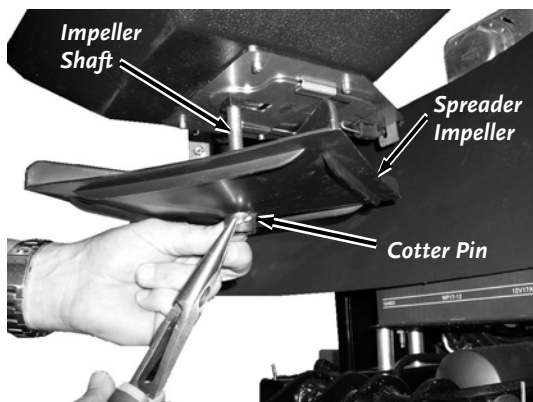

Figure 11
12. Slide the Spreader Impeller onto the Impeller Shaft with the large fins facing up and secure with 1/8" x 1-1/4" Cotter Pin (**Figure 11**).